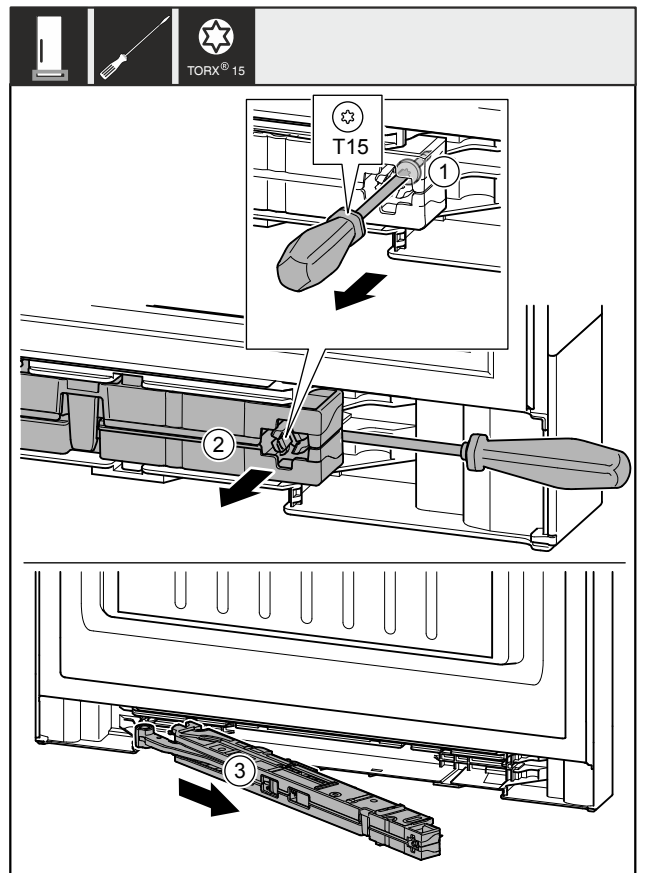

Fig. 11
- ▶ Use screwdriver to loosen the screw Fig. 11 (1) on the closing damper unit by approx. 14 mm.
- ▶ Lever the closing damper unit Fig. 11 (2) forwards on the handle side using a screwdriver.
- ▶ Pull out the closing damper unit Fig. 11 (3).